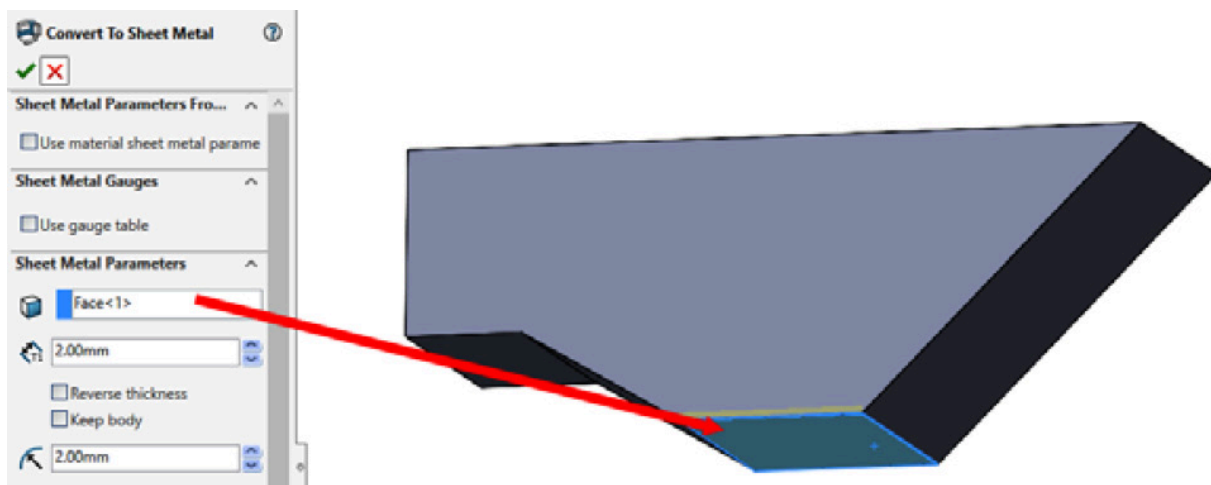

Figure 12.4: Select the Fixed Entity
7. Rotate the model and select the lowest underside face as the **Fixed Entity** (Figure 12.4).